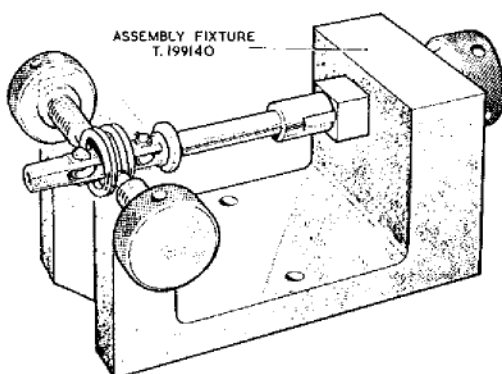

Fig. 19. Assembling the diaphragm spring anchor
194. Extend the free end of the spring, with tool T.199140 (*fig. 19*) and fit the spring anchor (116), this is secured in exactly the same manner as stated in the previous paragraph, then release the tool.